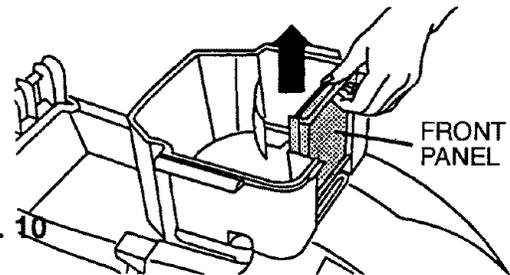

**Fig. 9**
3. Remove lid assembly. **(Fig. 9)**